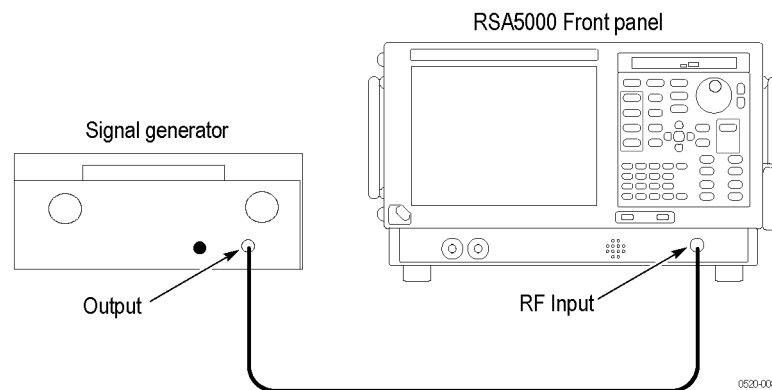

Figure 17: Equipment connections for Signal Spurious check
1. Connect the RF generator to the RSA5100A RF Input. (See Figure 17.)